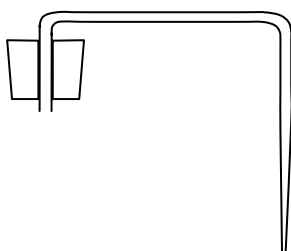

Fig. 1.1
- (vii) A bung and glass or plastic delivery tube, as shown in Fig. 1.1, to fit the large test-tube in (v).